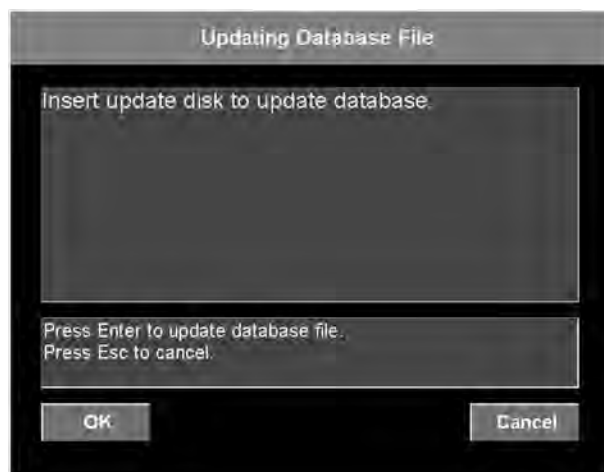

Fig. 13
- 6.** Click the **OK** button or press the Enter key on your keyboard to start copying the database files. (Fig. 13)